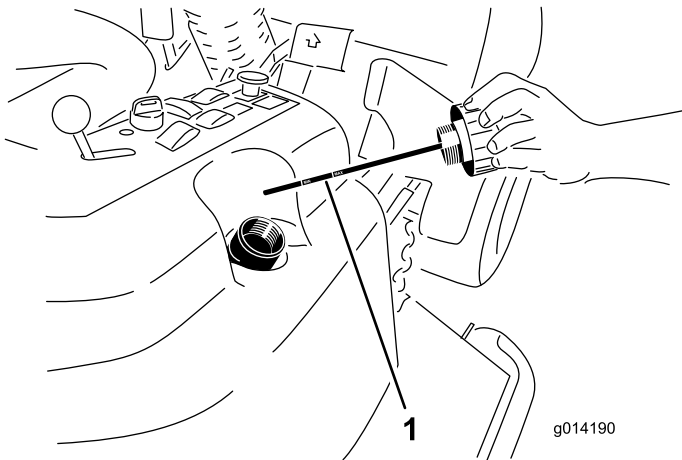

Figure 50
4. Remove the hydraulic-filler cap (Figure 50) from the filler neck.
5. Remove the dipstick and wipe it with a clean rag (Figure 50).
6. Screw the dipstick all the way into the filler neck; then remove it, and check the level of the fluid (Figure 50).